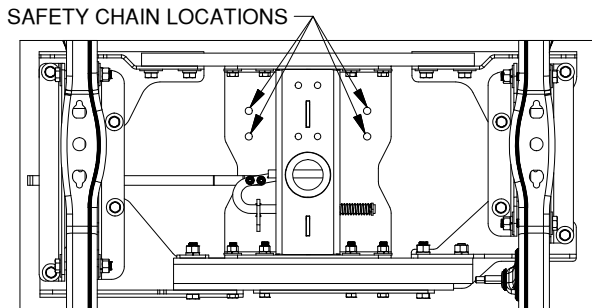

Figure G1: Bottom of truck bed looking up at hitch installation.
1. **Drill holes.** From under the bed, using a drill and small drill bit, drill a pilot hole into the bed in 4 places through the safety holes as shown in Figure G1. These holes must be perpendicular to the surface of the bed. Examine the holes from inside of the truck bed. Each set of holes should be 2" apart and each hole of a set should be the same distance from the nearest bed rib. With the pilot holes in the right position, enlarge the holes to 1/2"